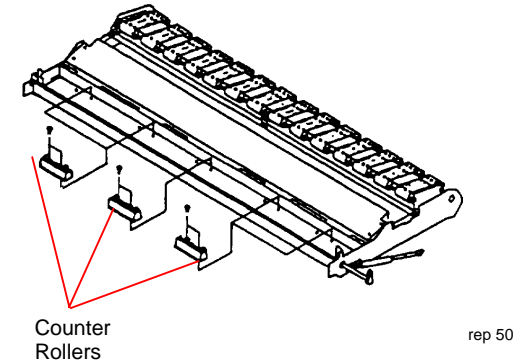

Figure 2. Removing the Counter Rollers
4. (Figure 2): Remove two screws each and remove the Counter Rollers.